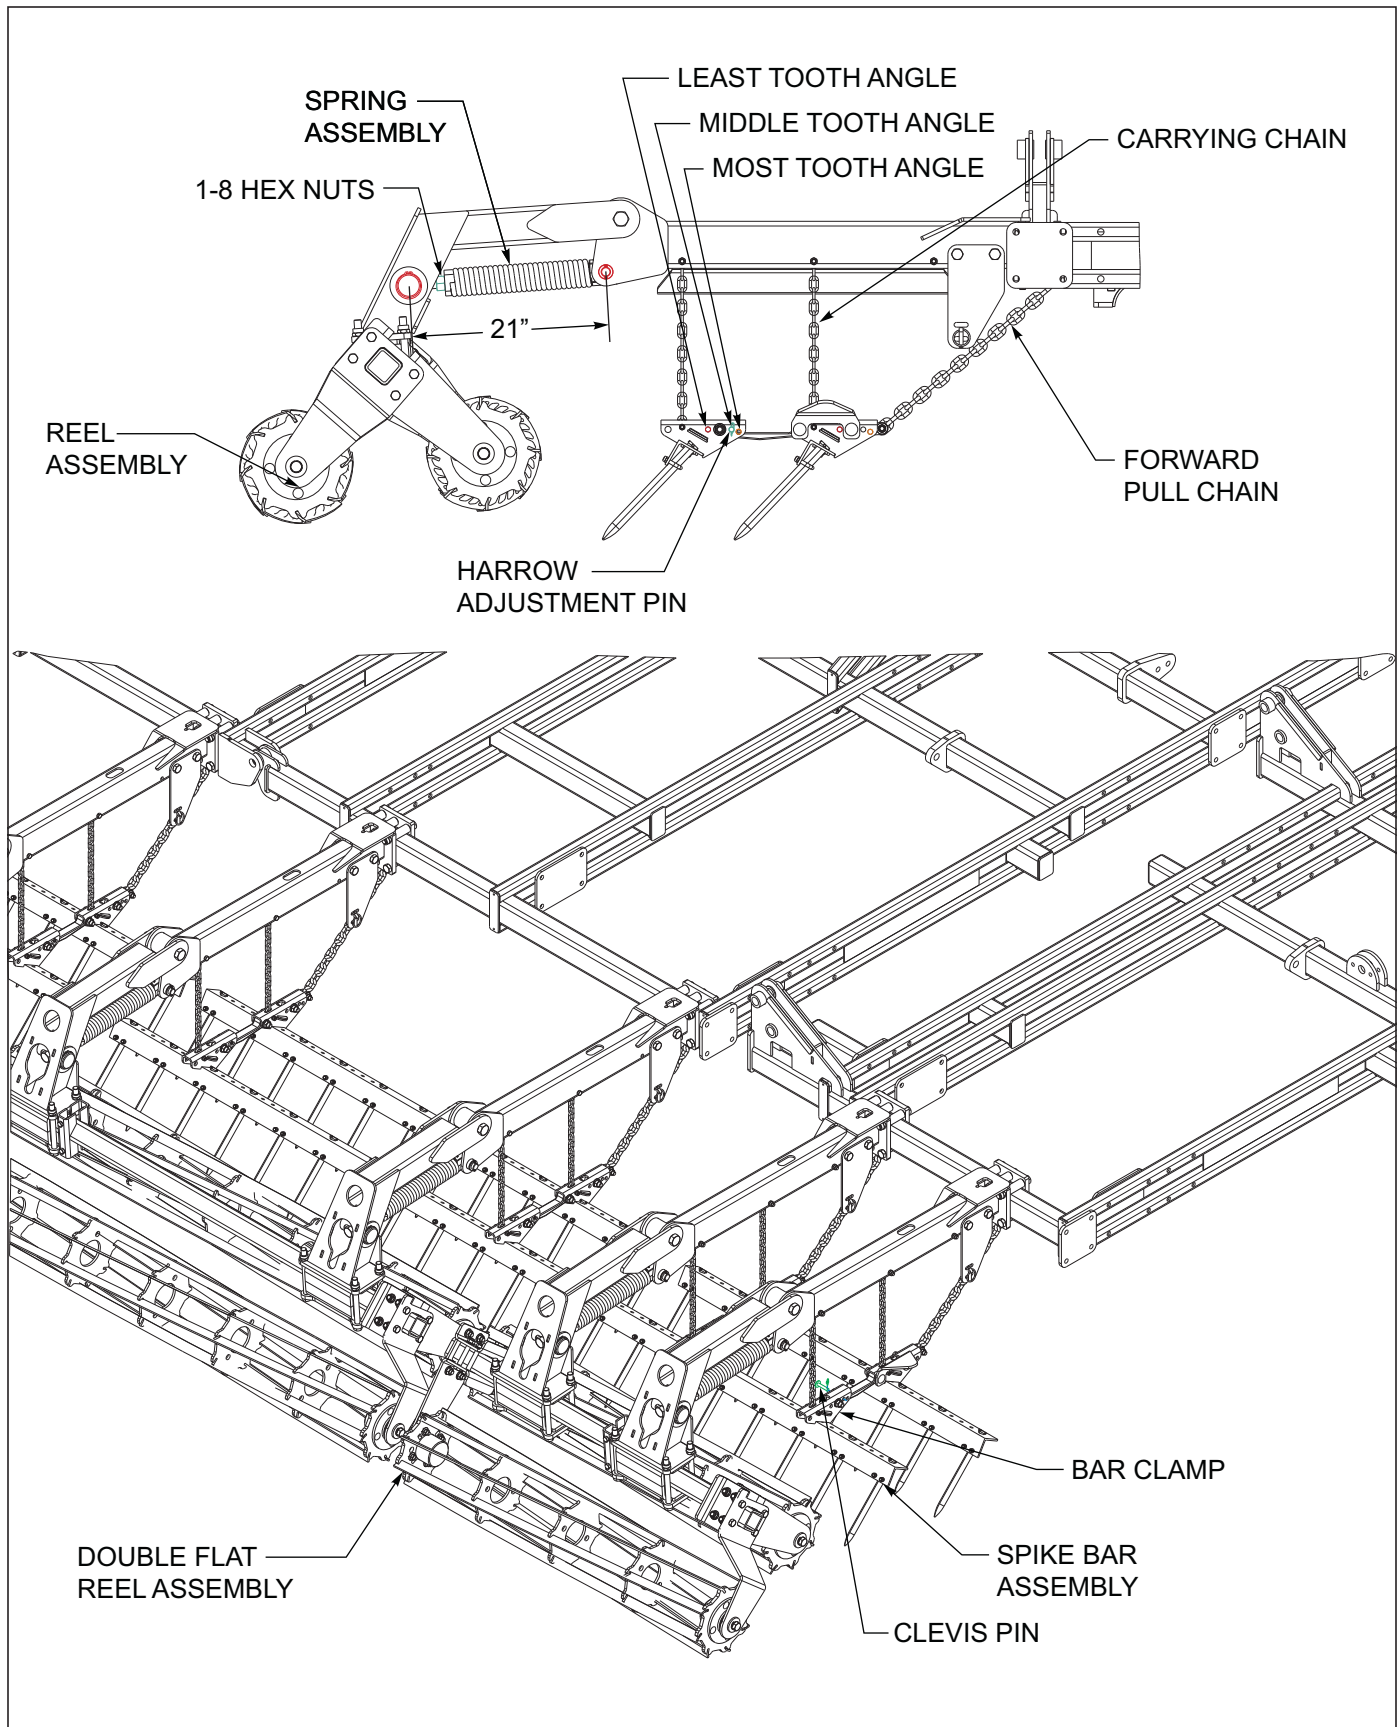

Figure 4-12: 2RS DBL Flat Reel Adjustments
- For the most aggressive spike tooth action, install the harrow adjustment pin in the forward mounting hole over each bar clamp for each spike bar See Figure 4-12. This will position the spike teeth to be in the most vertical position. In wetter or conditions with some residue, lower the spike tooth angle by positioning the harrow adjustment pin in the middle or rear hole. This will allow the teeth to lay flatter and shed more residue.
- Initially set the reel spring to the 21" dimensions as shown See Figure 4-12. Reels should be approximately even with the bottom of the sweeps.